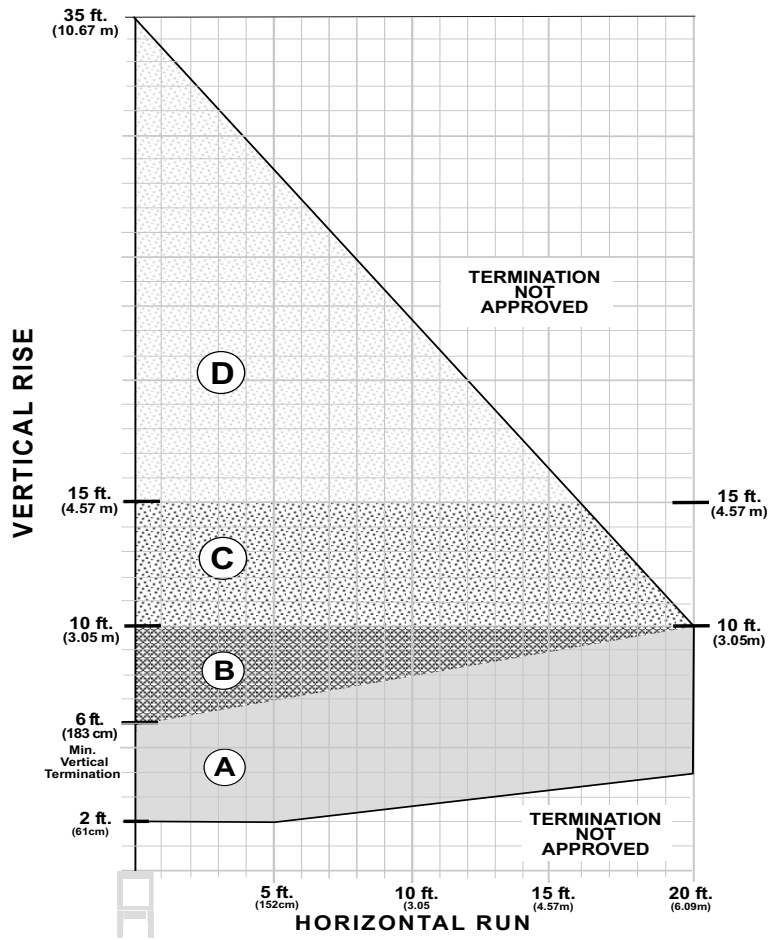
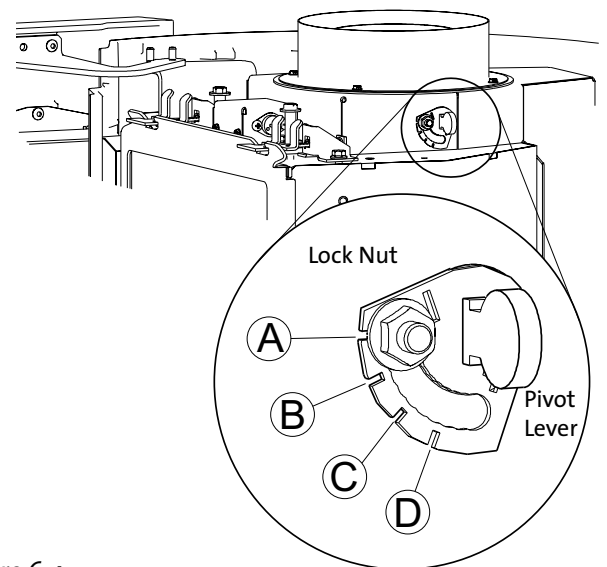

Figure 6.2.
Figure 6.4.
The Exhaust Restrictor plate is located within the firebox exhaust outlet. It is adjusted by rotating the dial on the right side of the outlet within a range beginning at the factory-set, fully open position (no restriction) to a fully restricted position. See Figs. 6.2 and 6.3. The Minus (-) and Plus (+) signs on the dial relate to degrees of restriction, from zero to approximately 70%. The four, lettered positions correlate to the termination zones (A,B,C,D) diagrammed in figure 6.4. Use the diagram to determine the degree of restriction and shutter setting that correlates to your vent configuration.
Determine the dial notch position appropriate to your vent configuration as designated in Fig 6.2. Pivot the dial to align the lock nut with that notch.
- The termination should fall within the shaded areas of the grids depicted in the Vent Matrix, fig. 6.2, page 10.
- **Maximum Horizontal run is 20 ft.** (152 cm) See Fig. 6.2 for related termination zone limitations.
- Any horizontal termination must fall within the shaded portion of the vent window matrix shown in fig. 6.2.